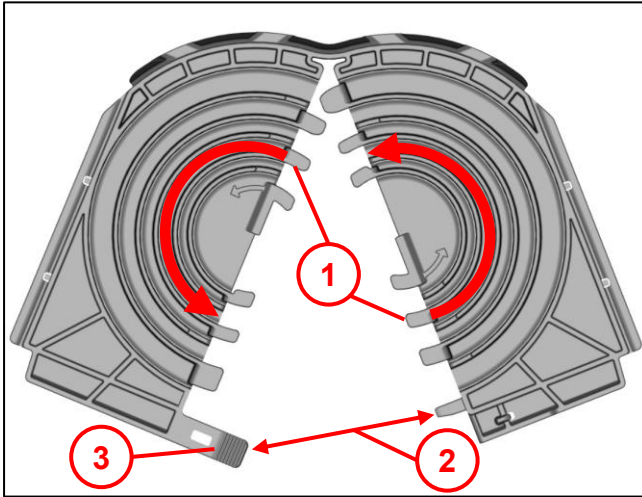

Fig. 25
- Using a suitable tool, open up the required pipe diameter at the predetermined breaking point. (See Fig. 25)